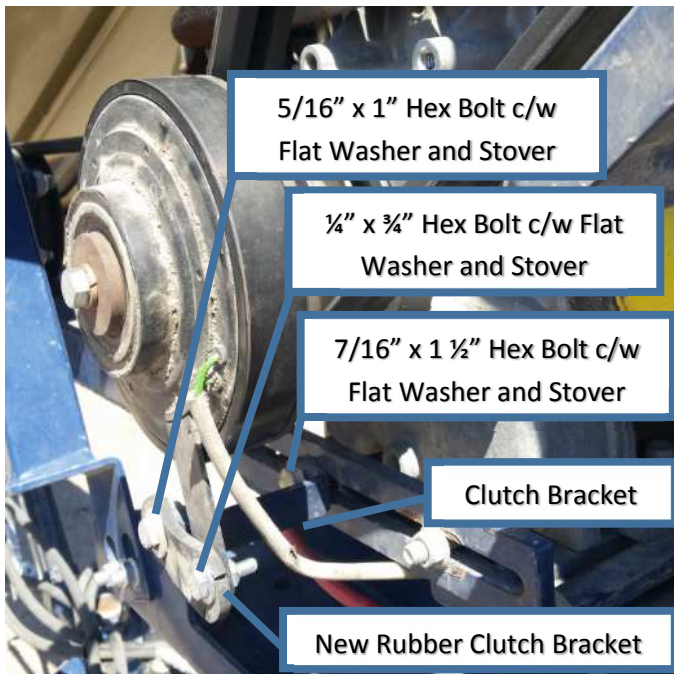

Figure 5
- Attach The Rubber Bracket to the Clutch Bracket PN 13000012910 using  $\frac{5}{16}$ " x 1" c/w Flat Washer and Stover as shown in Figure 5
- Attach the Clutch Bracket to the Motor Mount using  $1\frac{1}{2}$ " x  $\frac{7}{16}$ " Hex Bolt c/w Flat Washer, Lock Washer and Hex Flange Nut as shown in Figure 5